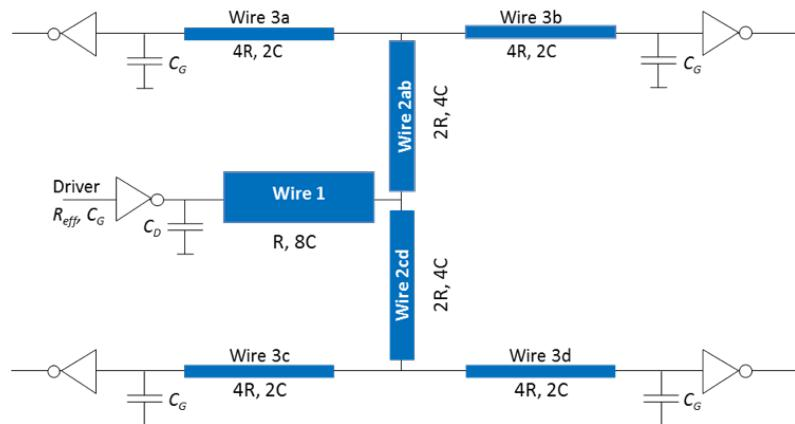

Figure 7.5: A driver inverter loaded by four identical receiver inverters across an H-tree wire interconnect.
In Figure 7.5 you see a driver inverter loaded by four identical receiver inverters across an H-tree wire interconnect.
- Calculate the FO4 delay for the driver inverter when loaded as shown in Figure 7.5. (5 p)